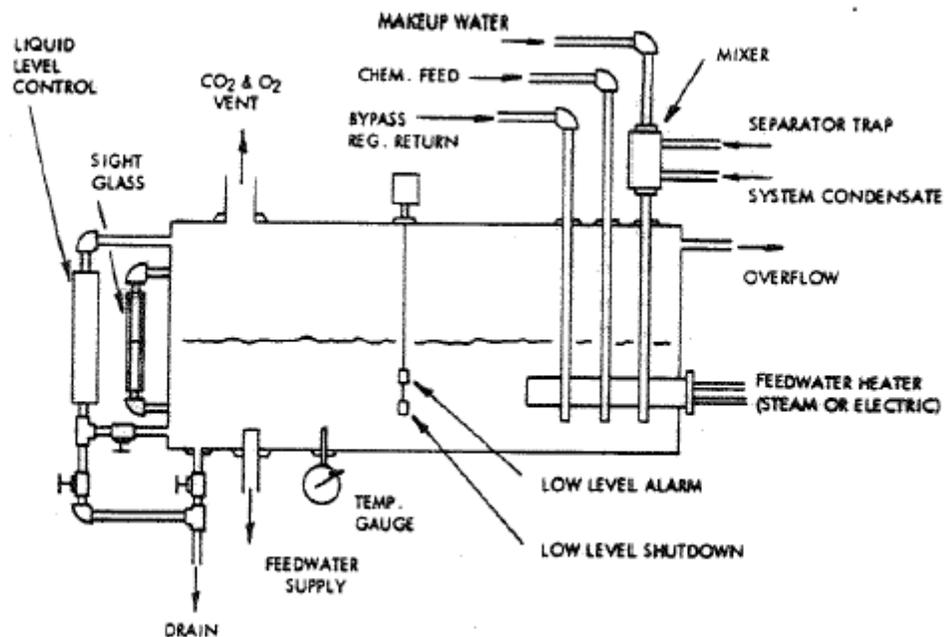
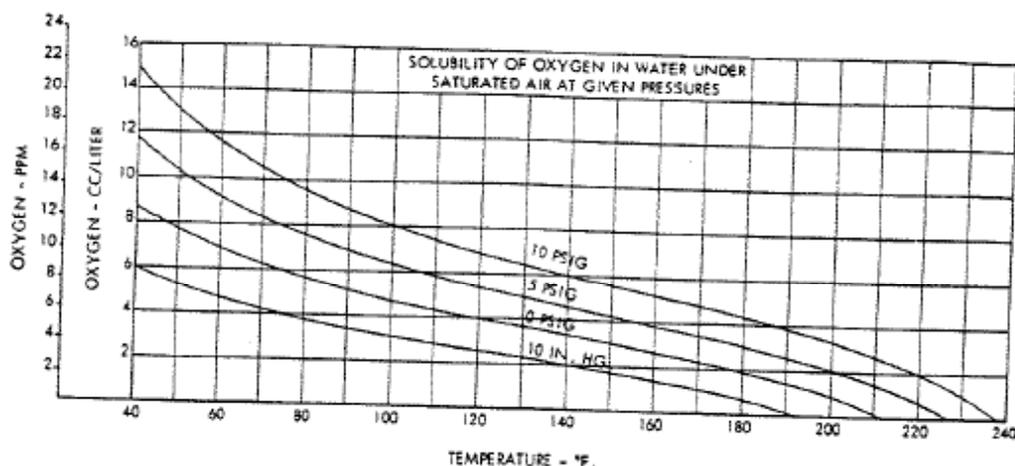

Figure 9, Recommended Feedwater Tank Design
Figure 10
9.4.3 The two gases, dissolved oxygen (O_2) and dissolved carbon dioxide (CO_2), must be eliminated from the feedwater. The best method of accomplishing this elimination is through a well designed deaerator. If this is impossible or impractical, a well designed feedwater tank or condensate receiver is the next best thing. It must heat the boiler feedwater to from 205°F to 210°F and be vented so that the O_2 and CO_2 can easily escape to the atmosphere. See Figure 9 for an acceptable feedwater tank design. Even at 205°F to 210°F, some O_2 will remain in solution. (See Figure 10). This remaining O_2 must be removed by using an oxygen scavenger such as catalyzed sodium sulfite or hydrazine. The O_2 scavenger must be added to the feedwater tank at a point where it will intercept the new waters entering the tank. This is shown in Figure 9. It must have sufficient residence time (preferably in the tank) to react with any dissolved oxygen before it can do any damage to the tank, the piping, or the boiler. For this reason catalyzed sodium sulfite is preferred over uncatalyzed sodium sulfite or hydrazine. It reacts much faster than either of these. Catalyzed sodium sulfite contributes to total dissolved solids, creates sulfates with the oxygen, and cannot be used over 600 psi. These possible problems can be resolved by the water treatment company, Hydrazine does not contribute to TDS.